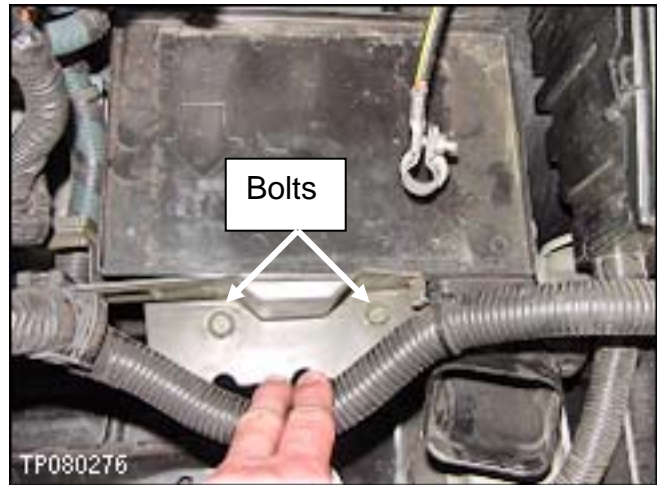

Figure 8
4. Remove 2 bolts shown in Figure 8 and move the main harness forward.